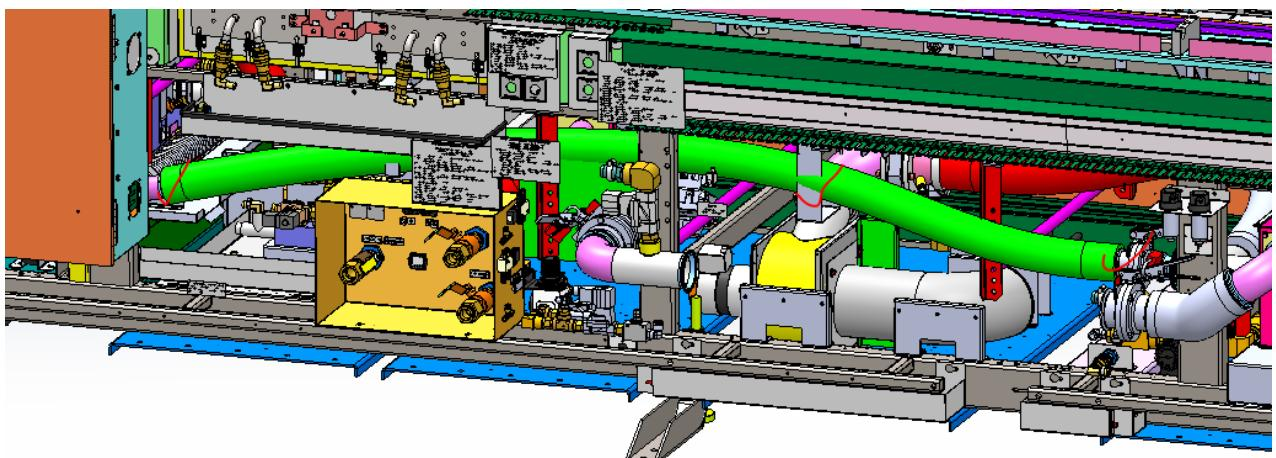

Fig 16
14. use 2" tube (4184768) connect like below shown (see Fig 16)